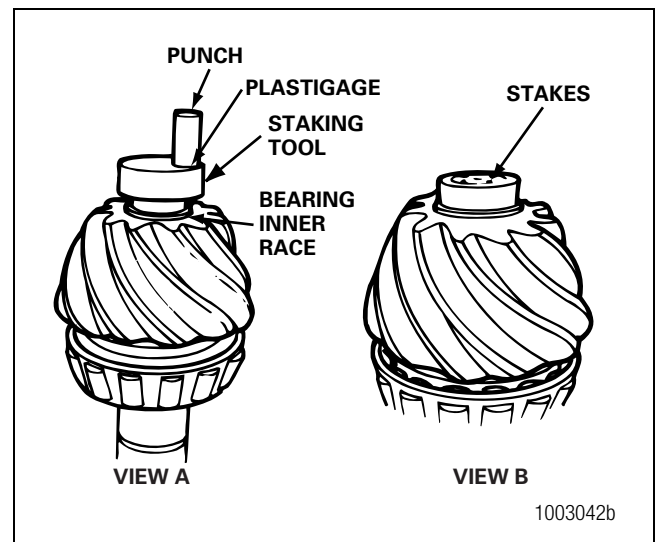

Figure 5.11
7. Place the staking tool over the bearing race. Cut a one-inch (25 mm) piece from the green plastigage strip and place in between the punch and the staking tool. You do not need to use the plastigage for every stake. Use the plastigage until you are sure that you are hitting the punch with the correct amount of force. Figure 5.11.
8. Strike the punch with a two-three pound (0.9-1.4 kg) brass hammer to upset the end of the pinion stem. Remove the strip and measure its thickness against the gauge on the strip's wrapper. The strip must not be less than 0.003-inch (0.0762 mm) thick. This thickness indicates that you are using enough force when you hit the punch. If the strip is too thin, then you must hit the punch harder so the stake will hold the race in place. Rotate the tool and repeat this procedure until there are six evenly spaced stake marks around the stem. Figure 5.11.